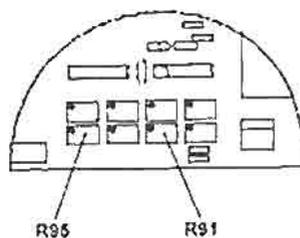

Figure 3-47. COAG power calibration.
(5) Set "COAG POWER" to 120 watts by depressing the up (Δ) keyboard switch until 120 shows in the right-hand digital display.
(6) Adjust resistor R95 to approximately midpoint and turn resistor R91 fully clockwise (fig 3-47).
(7) Depress the "COAG" pedal on the monopolar footswitch.
(8) Observe the wattmeter and adjust resistor R95 until the wattmeter indicates 120. Release the "COAG" pedal.
(9) Change the wattmeter load to 100 ohms.
(10) Turn resistor R91 counterclockwise to its midpoint.
(11) Depress the "COAG" pedal on the monopolar footswitch.
(12) Observe the wattmeter and adjust resistor R91 until the wattmeter indicates 100 ± 20 . Release the pedal.
(13) Depress the white "STDBY" keyboard switch to return the ES apparatus to the standby mode.
(14) Place a small dab of sealing compound on the resistor adjustment screws to lock them at their new settings.